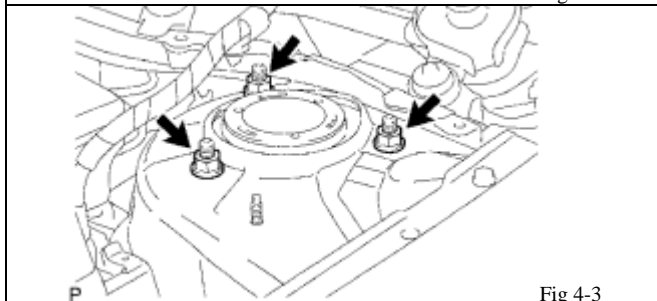

Fig 4-3
- (f) Remove the two rear nuts holding the top of the strut. Loosen the front nut but, do not remove it. (Fig 4-3)